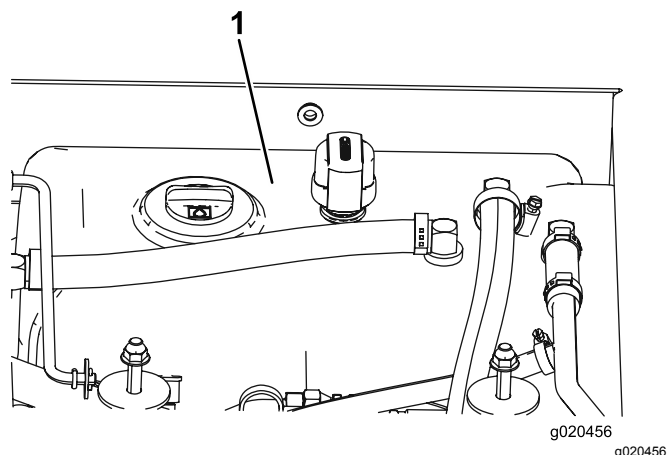

Figure 117
4. Fill the reservoir (Figure 117) with hydraulic fluid; refer to Checking the Hydraulic Fluid (page 77).